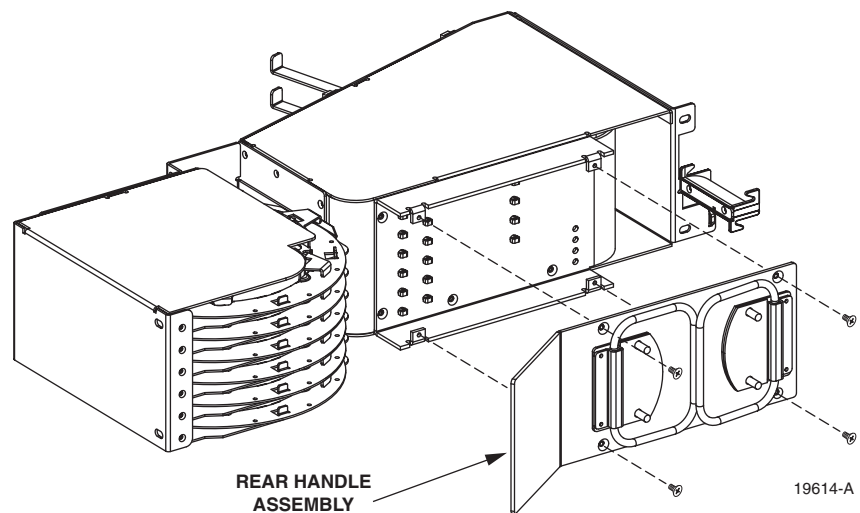

Figure 23. Rear Handle Assembly Removal and Installation
11. Use a Phillips screwdriver to remove the four screws that secure the handle assembly to the back of connector panel #1 (top panel) as shown in Figure 23. Save each screw for reuse.
10. When all splices have been completed, re-install the rear handle assembly on the back of each connector panel (see Figure 23).